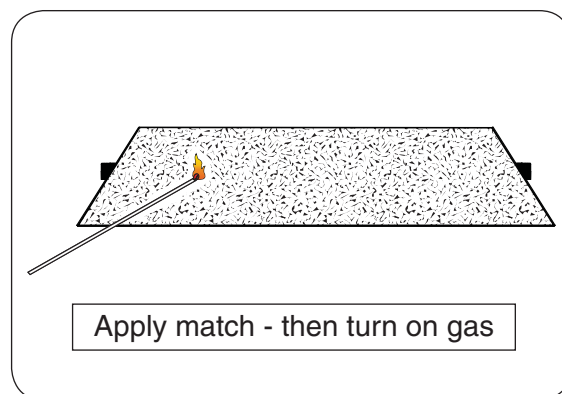

Fig. 17-1
3. Lay a lighted match on the surface of the decorative media near the burner (**do not hold the match in your hand**) or use a lighted long-stem match/long-necked butane lighter (Fig. 17-1).